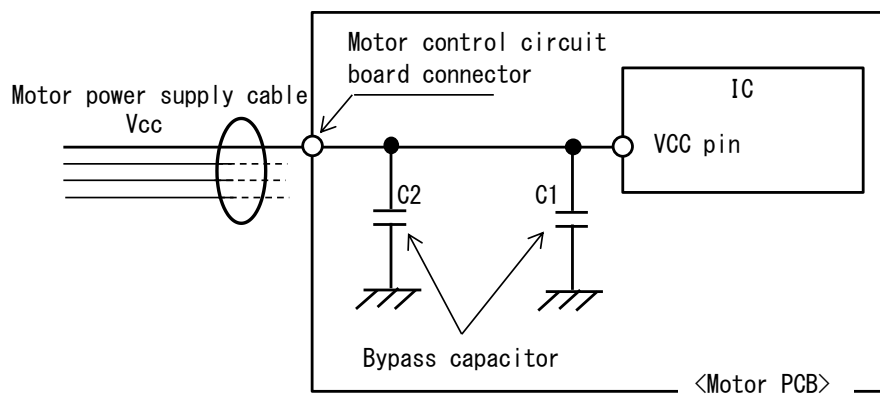

FIGURE 5.6.1 Example of Mounted Surge Suppression Devices
- ① Mount a bypass capacitor C1 near the pin of the IC. Use a capacitor that has excellent frequency characteristics, such as a ceramic capacitor. As a guide, a capacitor of around 1μF is recommended.
- ② It is more effective to mount a surge suppression device, such as bypass capacitor C2 shown in Figure 5.6.1, close to the connector of a motor control circuit board.